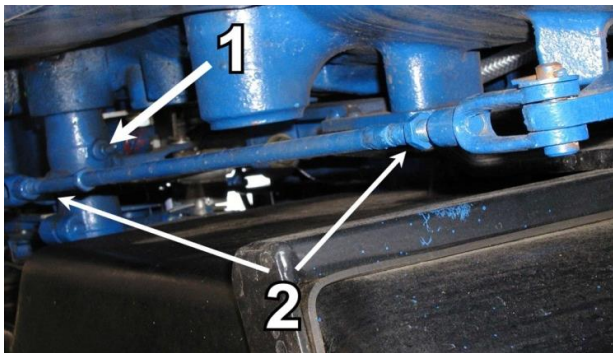

Fig. 5.8.1. Free travel adjustment of transmission clutch pedal. 1 – Clutch linkage pivot grease point. 2 – Lock nut.
- clutch linkage pedal pivot (1-Fig. 5.8.1),
To adjust (Fig. 5.8.1):